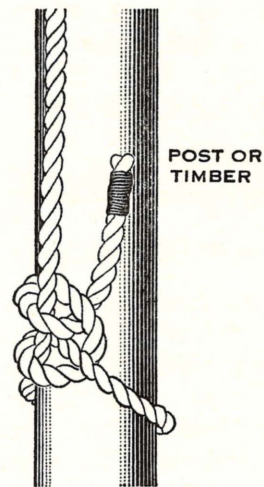

Fig. 536—Two half hitches
5. **Two Half Hitches.** This knot is very useful in making a rope fast to a tree or pole. In tying packages where only one end of the string is free, as many half hitches may be taken around the cross string as are necessary to make it secure. (See Fig. 536.)